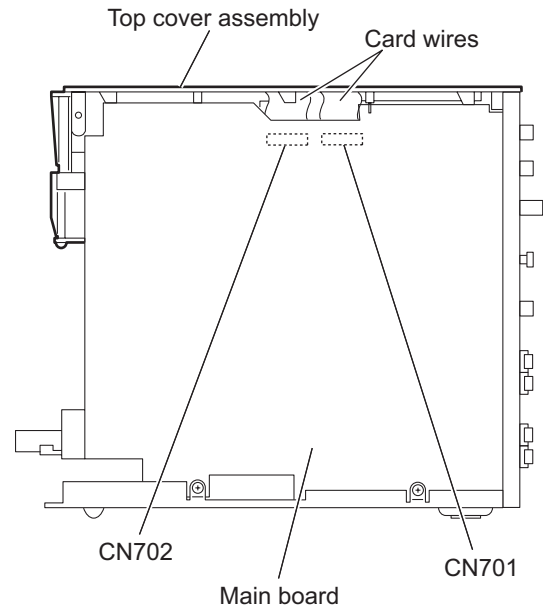

Fig.10
- (2) From the right side of the main body, disconnect the card wires from the connectors (**CN701**, **CN702**) on the main board. (See Fig.10.)